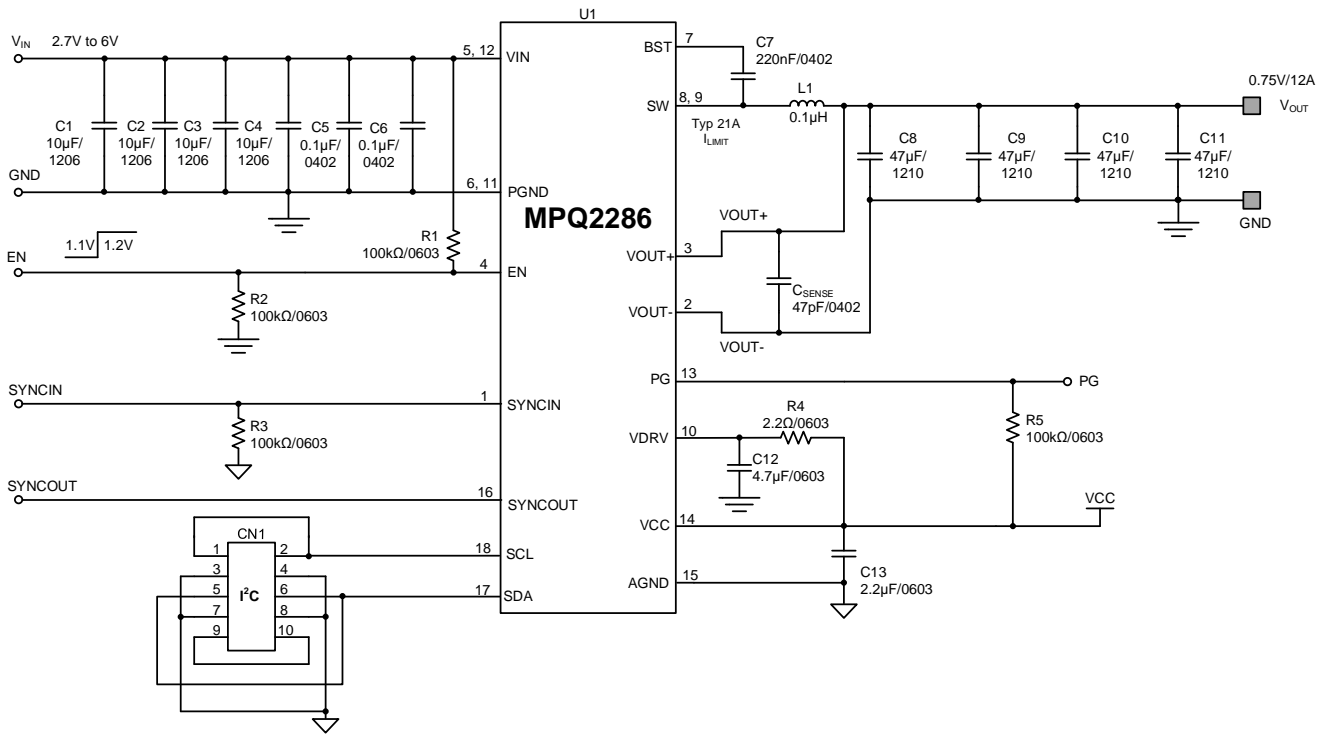

Figure 14: Typical Application Circuit ($V_{OUT} = 0.75V$, $I_{OUT} = 12A$, $f_{sw} = 3MHz$)
- 12) The recommended PCB layout is based on Figure 14 on page 65.